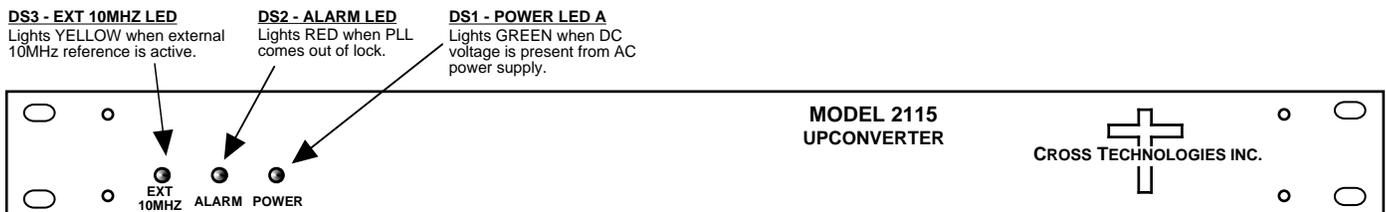

**FIGURE 2.1 2115-178-500 Rear Panel I/O's**
## 2.2 Rear Panel Input/Output Signals - Figure 2.1 shows the input and output connectors on the rear panel.
1. Connect a -10 dBm to -30 dBm signal to L-BAND INPUT, J1 (Figure 2.1).
5. Select either INT (for internal 10MHz ref), AUTO (for internal 10MHz ref UNLESS a external 10MHz, 3 dBm signal is connected to J2), or EXT (for external 10MHz, 3 dBm ref that is inserted at J2) on rear panel switch S1 (Figure 2.1).
7. Check that a 10MHz, 3 dBm  $\pm$ 3 dB signal is present at the 10MHZ REF OUTPUT (J8) (Figure 2.1).